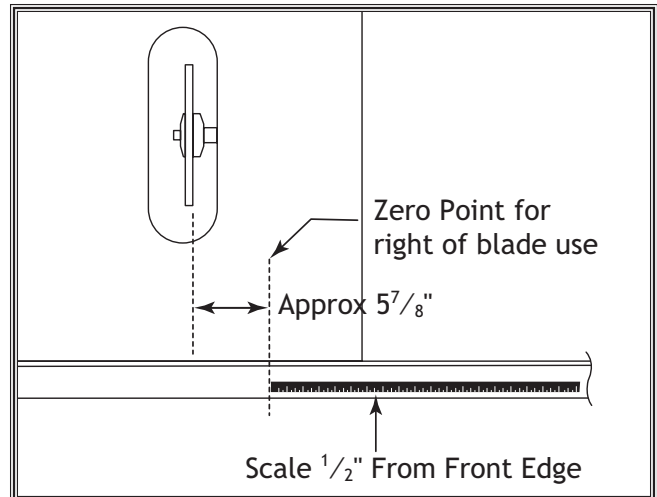

Figure 13. Scale location for right-side blade use.
5. Using the zero mark as the starting point and the masking tape as a guide, apply the adhesive scale to the rail. See Figure 13. Push the scale into place with heavy thumb pressure.